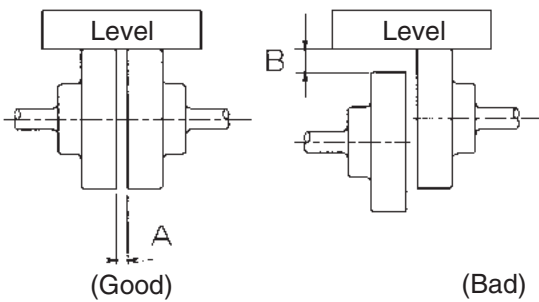

Fig. 12 Installation of coupling
- (1) When coupling, ensure that the eccentricity between the geared motor and the mating machine is 0.05 mm or less (see Fig. 12). Use a flexible coupling for convenience.